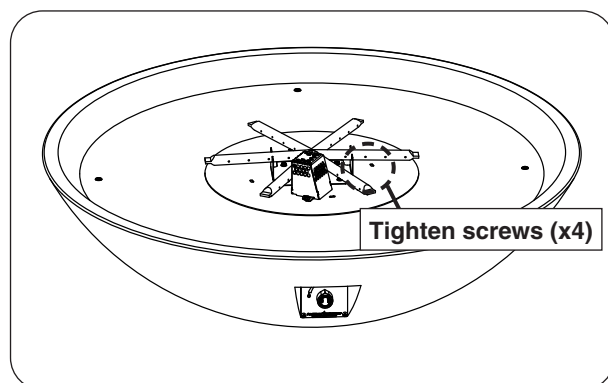

Fig. 31-3 Reinstall burner (if applicable)
2. Use a $\frac{5}{16}$ " nut driver to fasten the burner to the base (see Fig. 31-3).